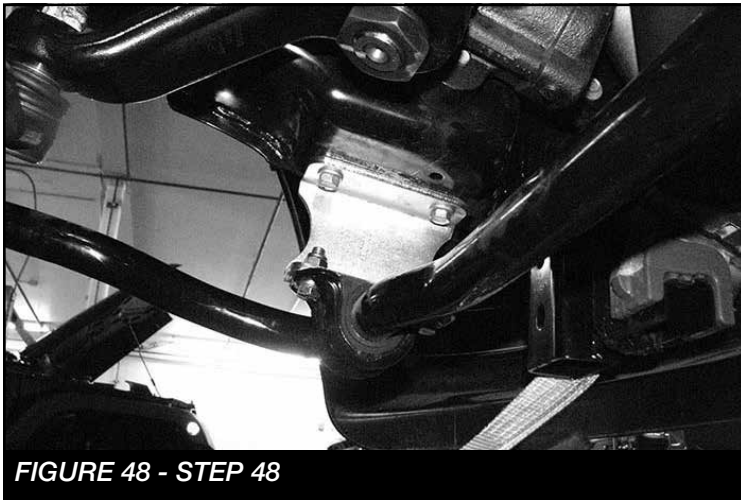

FIGURE 48 - STEP 48
48. Locate the new sway bar drop brackets FT44043 (Driver) and FT44044 (Passenger). Install the new brackets on the frame using the factory hardware. Install the sway bar onto the new brackets using the supplied 7/16" hardware. Torque to 80 ft-lbs. **SEE FIGURE 48**